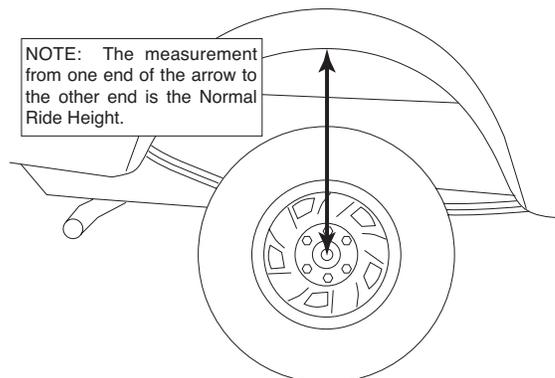

fig. 2
2. Measure the distance between the center of the hub and the bottom edge of the wheel well (see Fig. 2). This is the Normal Ride Height. Enter the measurement below: